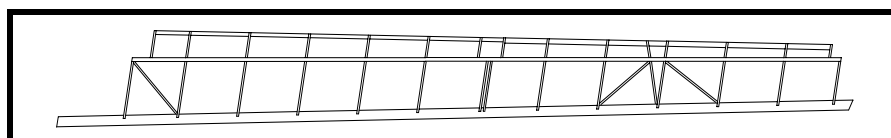

Figure 11
- ❑ Fit and install the leading edge strips into the flap and aileron leading edge ribs. See Figure 11. The notching already done in the leading edge ribs may be all that is required, although you may have to sand or shim in a few places. Because of the method that will be used to bend the upper leading edge skins, it is best to make the leading edge strips continuous across the hinge openings.